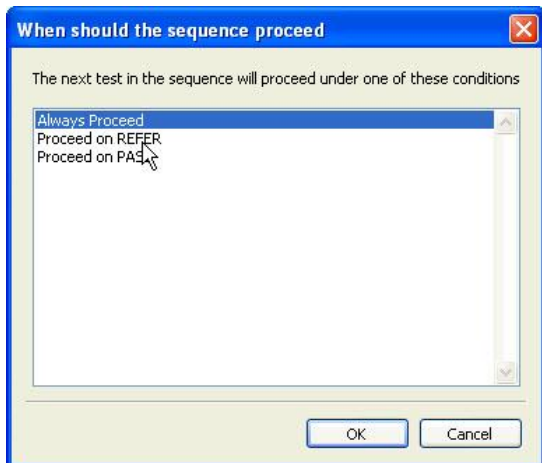

Figure 94
- Step 3:** You will be prompted to determine when the testing sequence should proceed to the next protocol (Figure 94). Make a selection and click *Ok*.